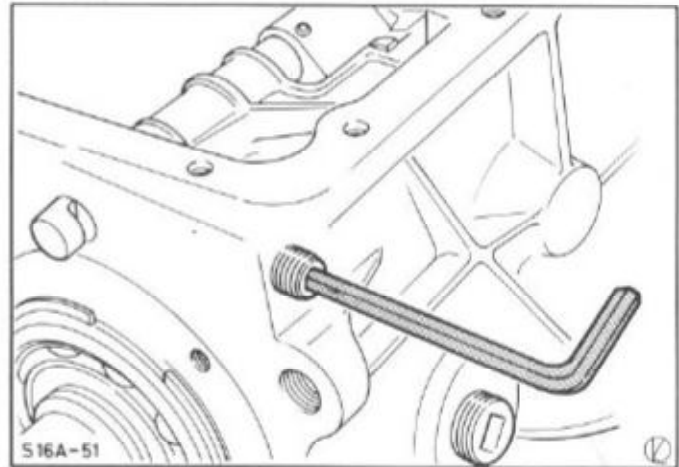

Fig.119. Unscrew selector locking mechanism.
10. Unscrew threaded plug of selector locking mechanism on the side of the transmission, Fig.119, withdraw spring and locking pin using a bar magnet.